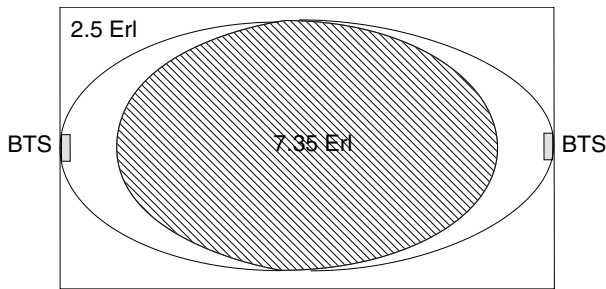

Figure 5. High capacity area (2 TRX) using Directed Retry
- Figure 5. High capacity area (2 TRX) using Directed Retry **14**